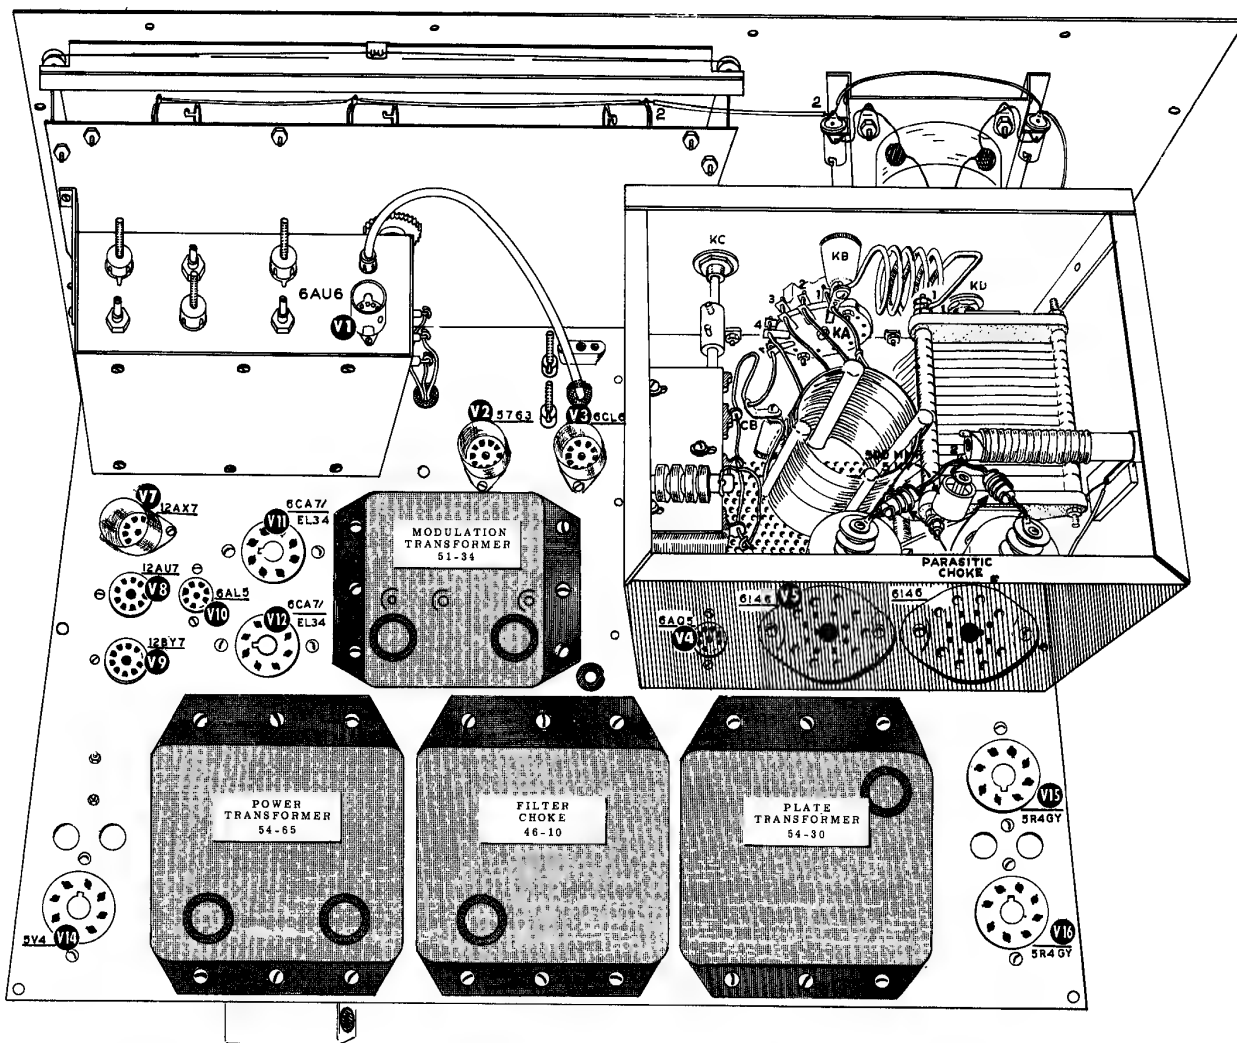

Figure 42
- () Using orange hookup wire, connect lug 2 of the bayonet socket on the meter bracket furthest from the panel edge (S2) to lug 2 of the bayonet socket on the left side of the dial back plate (S2). See Figure 42 on Page 92.
- () Insert all remaining tubes in the proper sockets. Refer to Figure 42 for identification of sockets. Don't forget to install the three voltage regulator tubes below chassis. Insert the two OB2 regulators at V17 and V18 and the OA2 regulator at V19. Install the VFO dial lamps in their sockets. Also install tube shields where required, placing the corrugated heat shield insert in the VFO tube shield (V1).